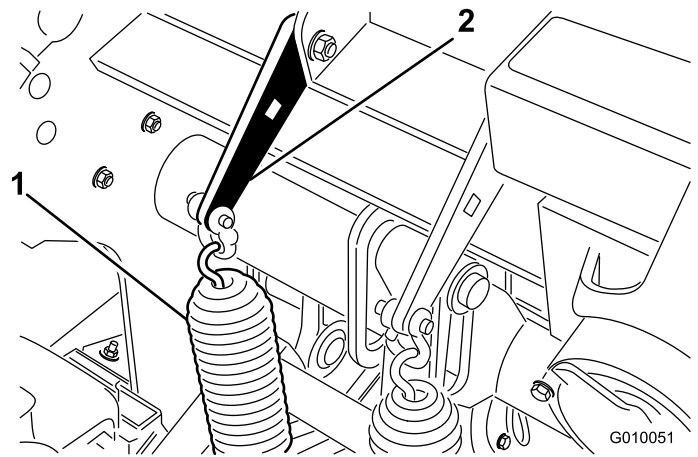

Figure 36
1. Loosen the carriage bolt nuts securing the spring brackets to the coring head (Figure 36). Do not remove them.